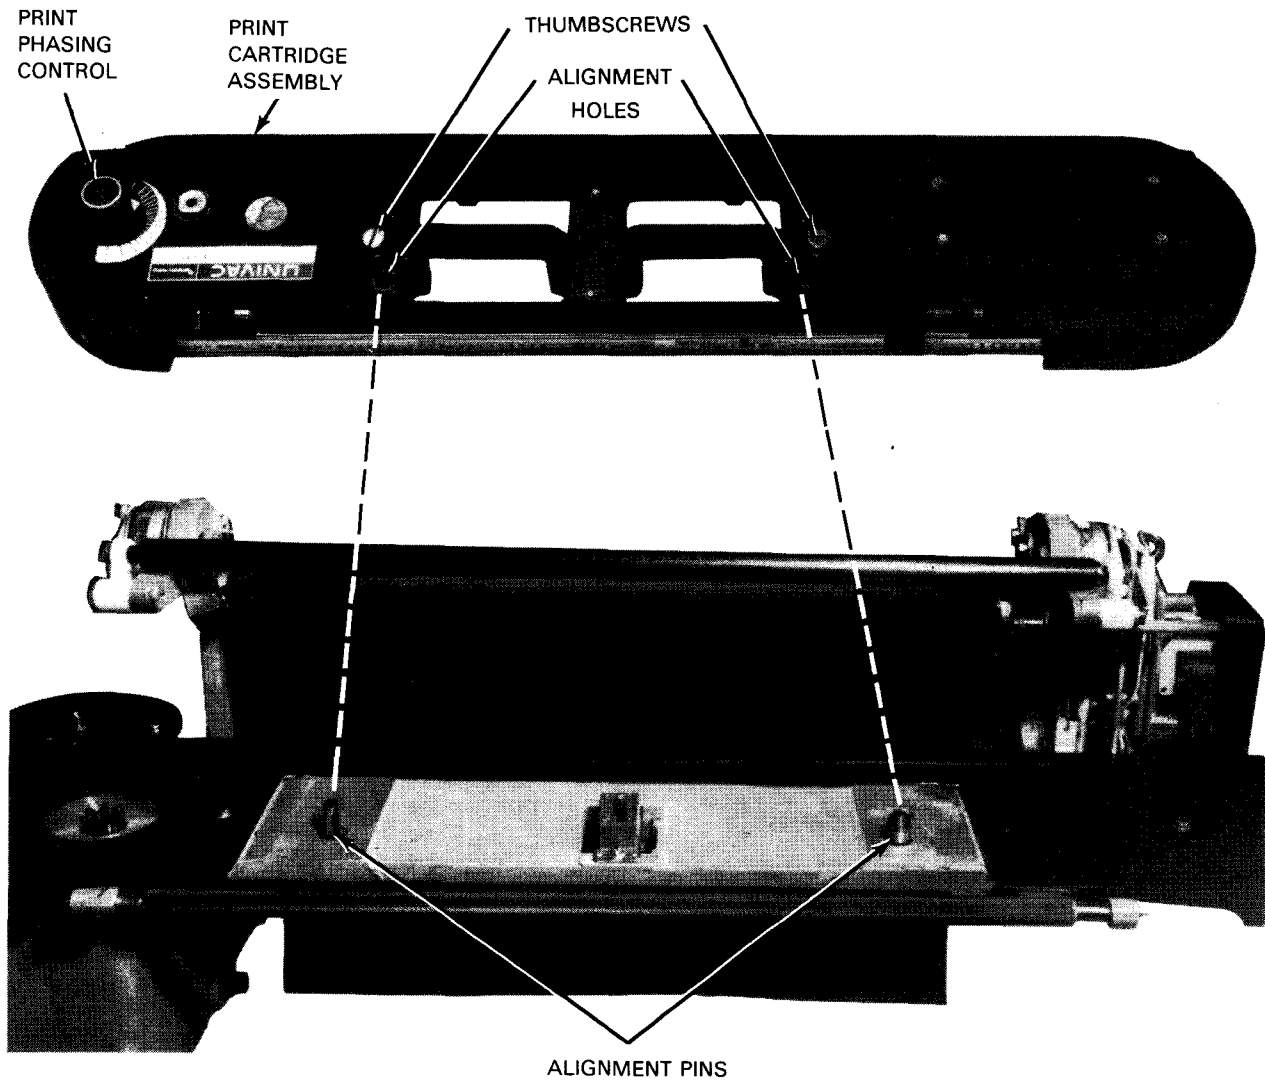

Figure 4-13. Alignment of Print Cartridge Assembly
4. Grasp two handles of print band cartridge and remove from print carriage assembly by lifting straight up (Figure 4-13).
5. To install print band cartridge, align two holes on print band cartridge with two alignment pins on print carriage assembly. Lower print band cartridge onto print carriage assembly (Figure 4-13).